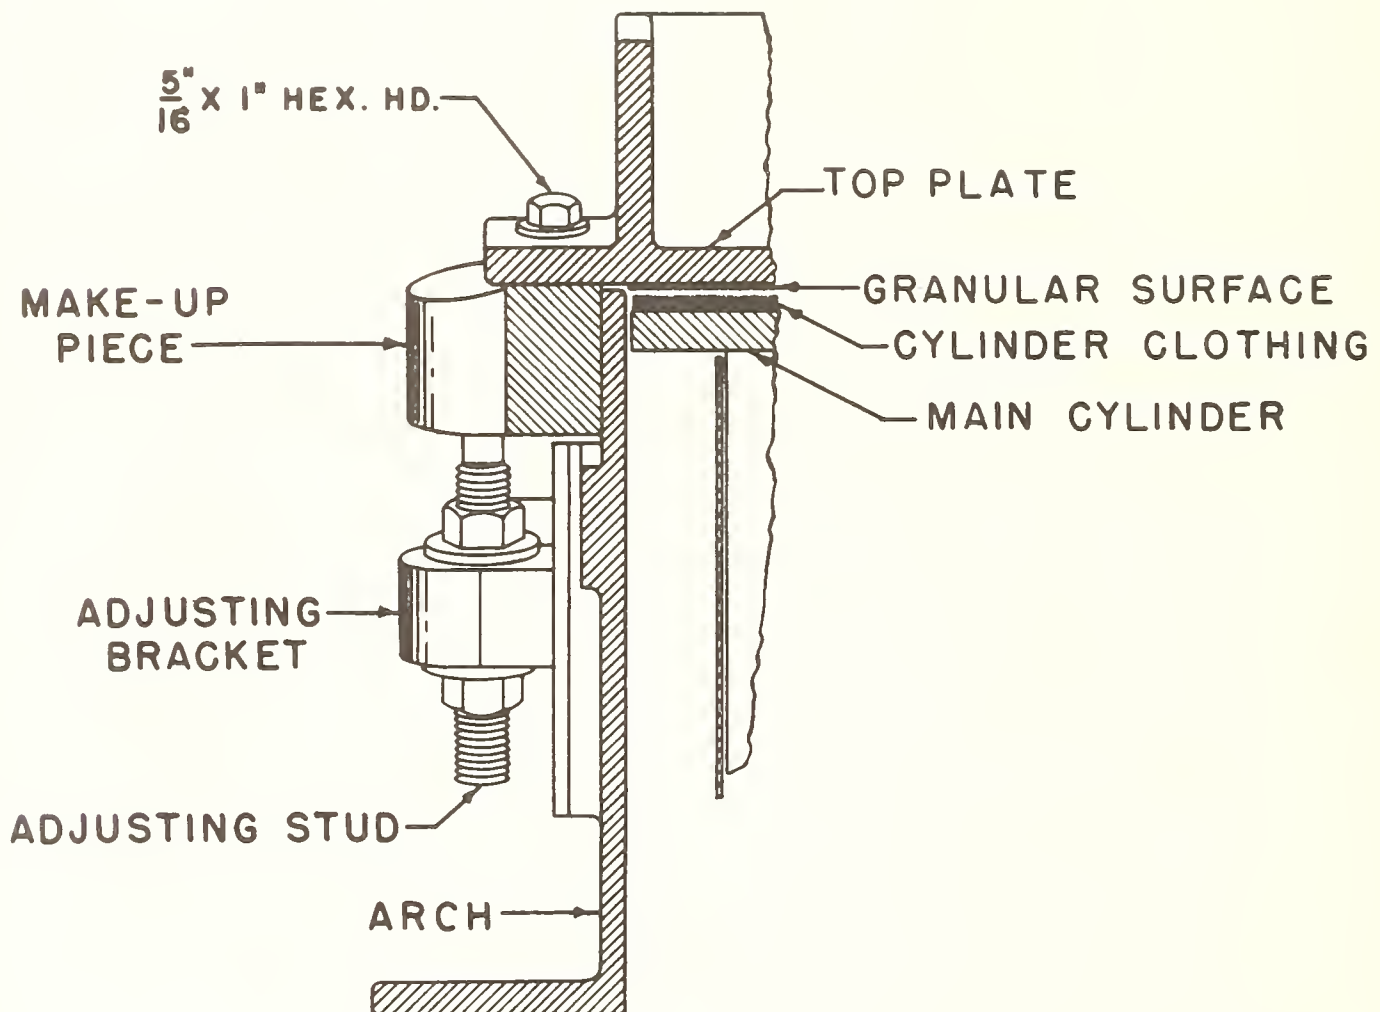

Figure 4. Section through arch.
Install one of the adjusting screws (F) tightly into the makeup-piece and install nut (G) with washer. Install bracket (E) and nut (H) with washer. With the screw (F) centered in the hole, adjust the nuts until the slot in the bracket is centered over the hole in the arch, and install screw (J) with its special washer. The other adjusting screw can now be installed through the bracket, making sure to insert the top nut and washer at the same time. When all adjusting screws have been installed, adjust the plates upward about 1-½ turns of the nut to provide space for the granular material, as shown in Figure 4.